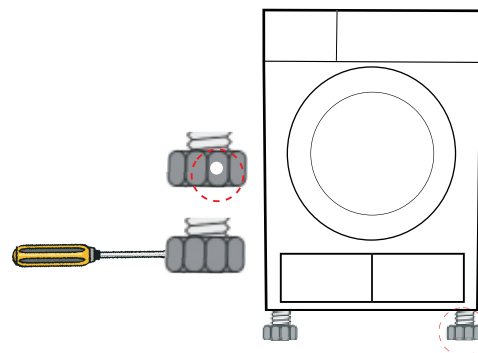

Fig 1
- If the floor is obviously uneven, it needs to be adjusted. It vibrates the machine, causing machine to move from its position. Use tools to adjust the height of the four machine legs to adjust the levelness of this dryer.(Fig1)